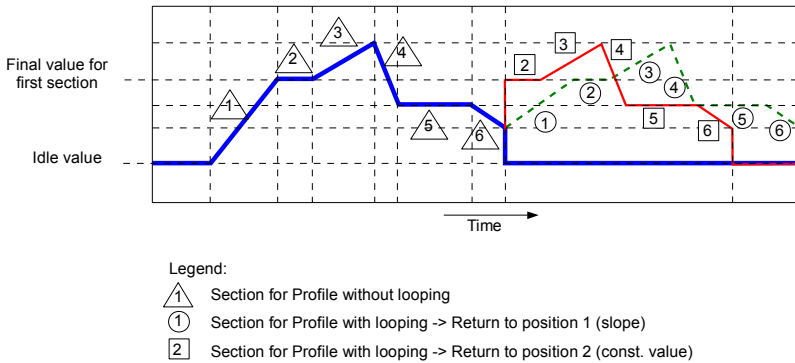

Fig. 7.106. Sample of Profile/timer with description of parameters
- if the section from which begins the next repeat Profile/timer is a **ramp**, then in the whole duration of this section is linear generating the output signal from the **final value** of the previous section to **final value** of this section. This is shown in **Fig. 7.106** (dashed line-run profile)
- if the section from which the next repeat of the Profile/timer begins is a constant value, then Profile signal quickly transient (0.1 seconds) from the **final value** of the previous section to a **constant value** in this section. This is shown in **Fig. 7.106** (profile guided fine line).